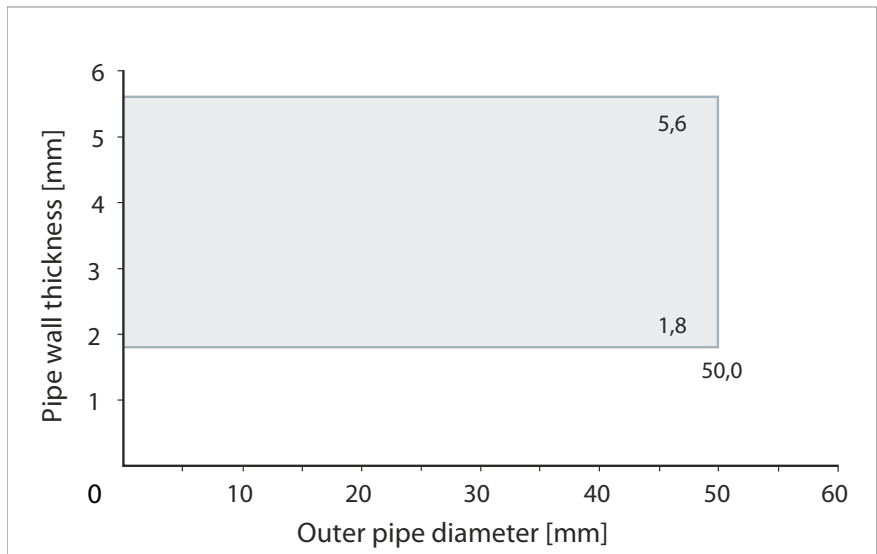

Figure 6: Pipe dimensions for combustible pipes made of PVC-U and PVC-C
- Pipes with softener-free polyvinylchloride (PVC-U) according to EN 1329-1, EN 1453-1, EN 1452-1 and DIN 8061/8062 and pipes of chlorinated polyvinylchloride (PVC-C) according to EN 1566-1 are approved up to an outer diameter of 50 mm. Comply with the approved nominal pipe wall thicknesses according to Abb. 6.